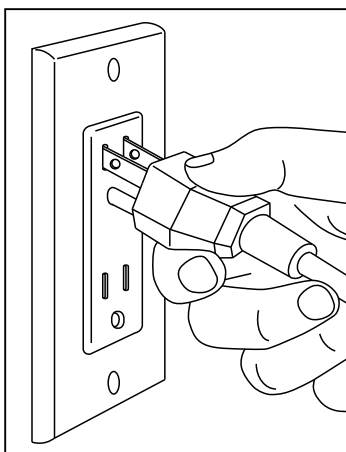

figure 1
1. Plug-in the sander's AC power cord to the power source (110-120V a.c. output). The warning "beep" sounds would be occurred after the plug is securely plug-in to the power source and the LED indicator shows "Solid Red" color at the moment. - see figure 1.